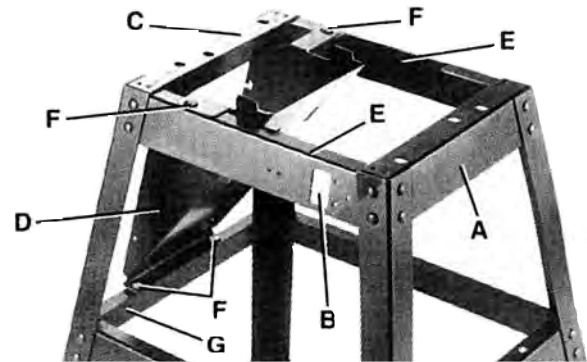

FIGURE 2
1. The front of the stand is indicated by switch opening (B) Fig. 2, making the outfeed end of the stand (C) and the infeed (A).
2. Assemble dust chute (D) Fig. 2 to outfeed end of stand (C) as shown, using four 1/2" long carriage bolts (F), flat washers, and hex nuts. Only tighten hex nuts fingertight at this time.